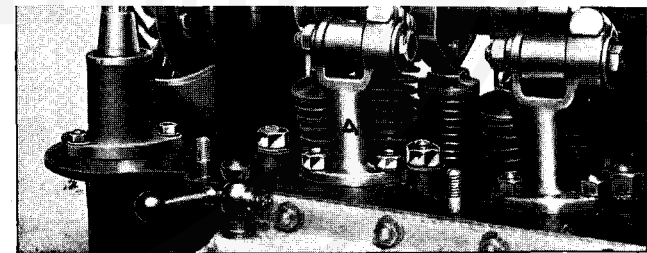
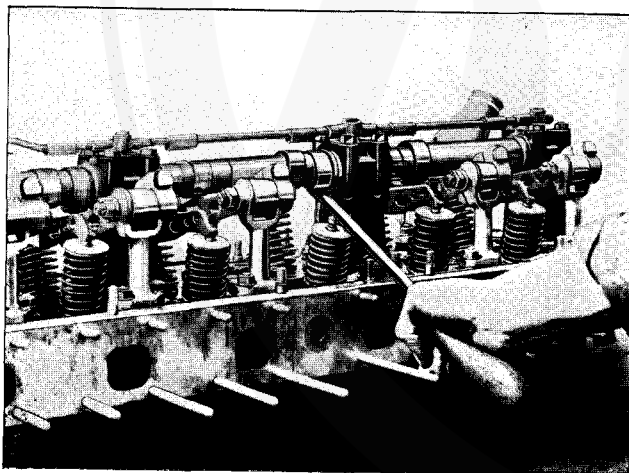

Fig. 27.
Fig. 32.
The tappet levers are mounted on a pedestal (A - Fig. 27) having an eccentric pin (B) which forms the bearing of the levers, the eccentric being arranged so that partial rotation of the pin lifts or lowers the lever fulcrum; rotation in the one direction raises the fulcrum and (regarding the end in contact with the valve as invariable) reduces the clearance between the cam roller and the cam; rotation in the opposite direction correspondingly increases the clearance between the cam roller and the cam. The correct clearance between the valve stem and tappet levers is .005" to .006" on the exhaust valves and .004" to .005" on the feed valves. A slip gauge is provided in the car's tool equipment for measuring this clearance, but in lieu of the slip gauge, a piece of 38 S.W.G. sheet metal is suitable for checking the exhaust valves and a piece of 40 or 41 S.W.G. metal for the feed valves.
Remove the tappet levers, detaching same from the cylinder head, together with their pedestals (A - Fig. 27). Press the valve springs down with a screwdriver (Fig. 32); remove the split collars from the valve stems and release the spring slowly. Withdraw the washer and spring. The valves can now be removed.
The function of the Valve Rod No. 21 is to prevent the valve dropping down into the cylinder-head when the valve spring is being removed. The Valve Rod A Fig. 44 is inserted in the sparking plug hole until it is felt to enter a hole in the exhaust side of the cylinder-head, it thus supports both the inlet and exhaust valves, the springs from which can now be easily removed. The method used for removing is described in Fig. 32 page 60.